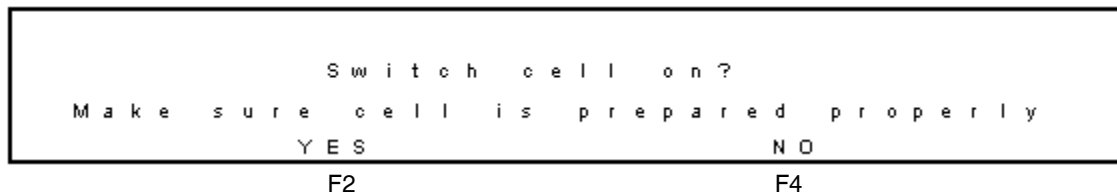

Figure 3-44 Switch Cell On Screen
4. Select **F2 CELL=OFF**. The Switch Cell On screen appears (Figure 3-44).